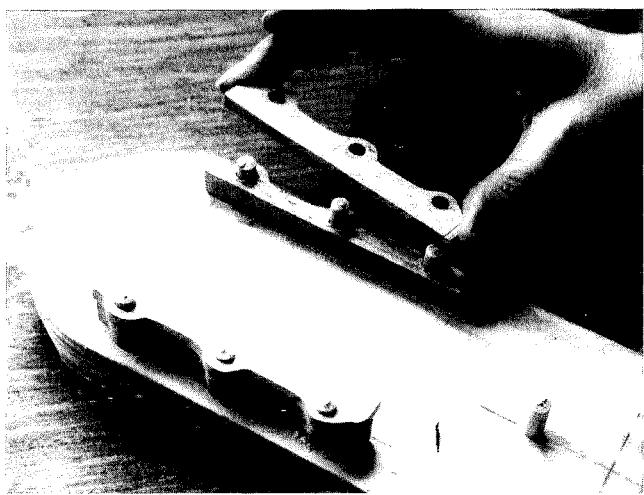

FIGURE 6-5
- 6** Having completed two identical, two-layer rails, carefully set the rails in place on the backboard, and mark in the position of the six peg-fixing holes. While you are at it—if you haven't already done it—mark in the position of the crank pivot hole, run the holes through with the $\frac{1}{4}$ " bit and have another fitting (Fig 6-5).